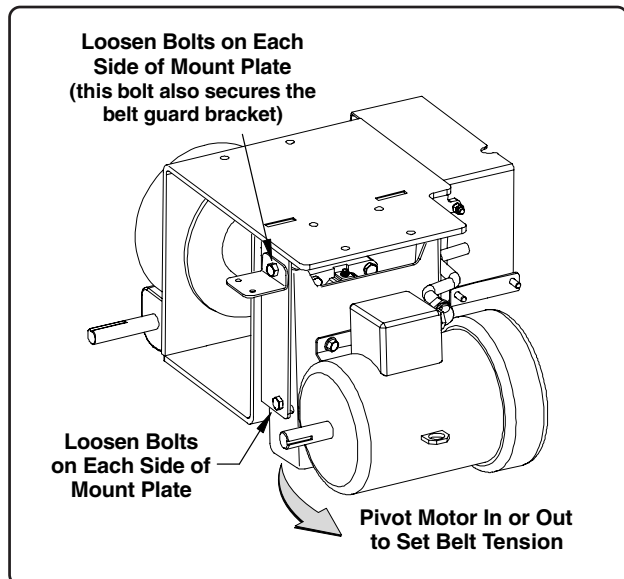

Fig. 12
3. To adjust belt tension, loosen the four bolts securing the motor mount plate, two bolts at top and two bolts at bottom (one of the top bolts is also used to secure the belt guard bracket as shown in Fig. 12). Using a pry bar, piece of wood or similar object, pry the motor mount plate out to achieve proper belt tension (the pry bar can be inserted from the bottom side of the motor mount plate). After proper tension has been set, retighten all four bolts.